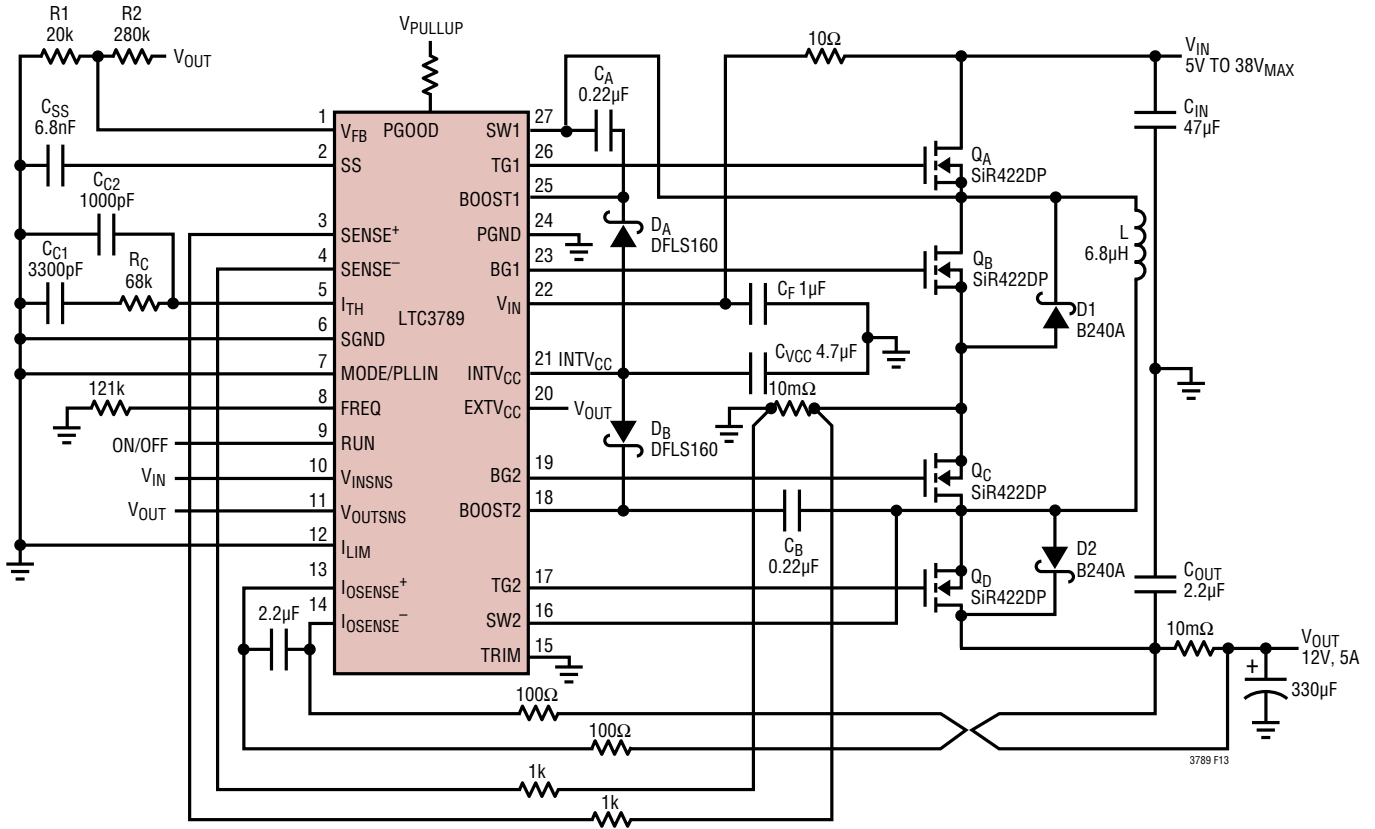

Figure 13. LTC3789 12V/5A, Buck-Boost Regulator
Referring to Figure 13, the external bootstrap capacitors C_A and C_B connected to the BOOST1 and BOOST2 pins supply the gate drive voltage for the topside MOSFET switches A and D. When the top switch A turns on, the switch node SW1 rises to V_{IN} and the BOOST1 pin rises to approximately V_{IN} + INTV_{CC}. When the bottom switch B turns on, the switch node SW1 drops to low and the boost capacitor C_A is charged through D_A from INTV_{CC}. When the top switch D turns on, the switch node SW2 rises to V_{OUT} and the BOOST2 pin rises to approximately V_{OUT} + INTV_{CC}. When the bottom switch C turns on, the switch node SW2 drops to low and the boost capacitor C_B is charged through D_A from INTV_{CC}. The boost capacitors C_A and C_B need to store about 100 times the gate charge required by the top switches A and D. In most applications, a 0.1μF to 0.47μF, X5R or X7R dielectric capacitor is adequate.
- Flood all unused areas on all layers with copper. Flooding with copper will reduce the temperature rise of power components. Connect the copper areas to any DC net (V_{IN} or GND). When laying out the printed circuit board, the following checklist should be used to ensure proper operation of the LTC3789. These items are also illustrated in Figure 13.